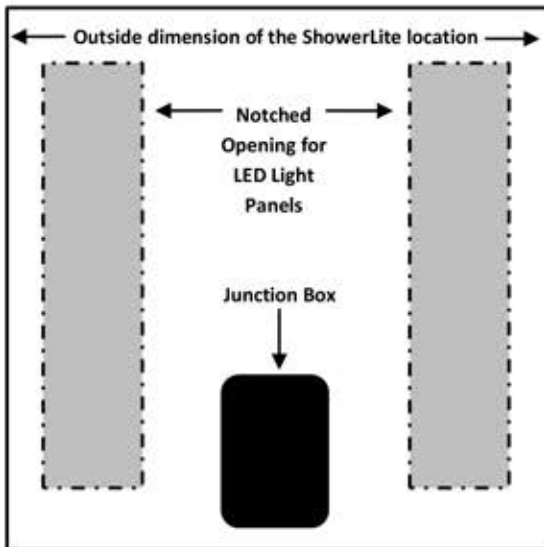

Figure 1. Preparing the wall board (front view).
5. Remove that area of wallboard to allow the mirror to install flush with the tile (see Figure 1).